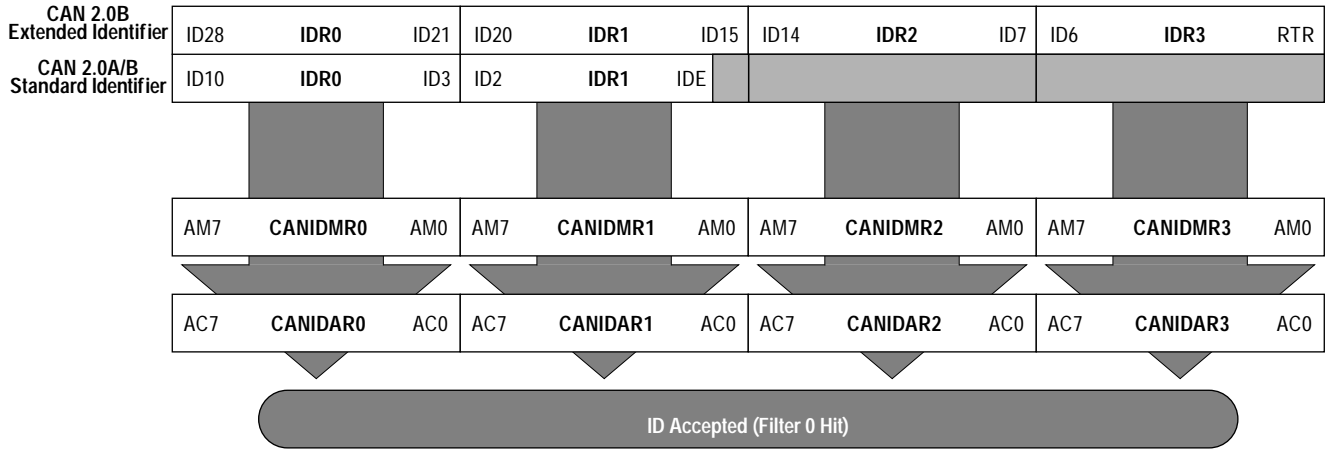

Figure 96 32-bit Maskable Identifier Acceptance Filter
- Two identifier acceptance filters, each to be applied to a) the full 29 bits of the extended identifier and to the following bits of the CAN 2.0B frame: Remote Transmission Request (RTR), Identifier Extension (IDE), and Substitute Remote Request (SRR) or b)² the 11 bits of the standard identifier plus the RTR and IDE bits of the CAN 2.0A/B messages. This mode implements two filters for a full length CAN 2.0B compliant extended identifier. Figure 96 shows how the first 32-bit filter bank (CANIDAR0–3, CANIDMR0–3) produces a filter 0 hit. Similarly, the second filter bank (CANIDAR4–7, CANIDMR4–7) produces a filter 1 hit.